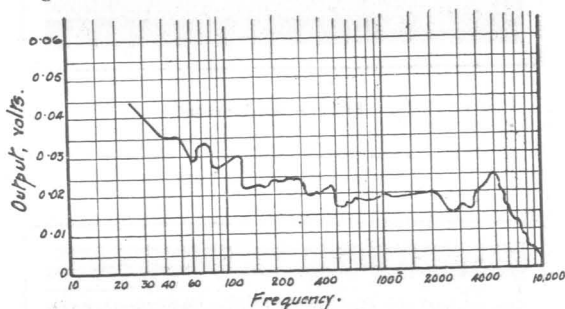

FIG. 34.—Frequency Characteristic of Needle Armature Pick-up as used by the B.B.C.
resonance into their instruments in order to "bring out the bass". Electrical reproducers can be designed to compensate for the cut-off; in fact most pick-ups are given a rising inflexion in the bass as shown in Figure 34. Dr. McLachlan, whose name is well known in connection with the development of moving coil loud speakers, has patented (4) an electric filter-network which, when interposed between pick-up and the amplifier, compensates exactly for the intentional bass cut-off. This extremely ingenious device has already been discussed in these columns (*The Gramophone*) by Mr. P. Wilson (5).